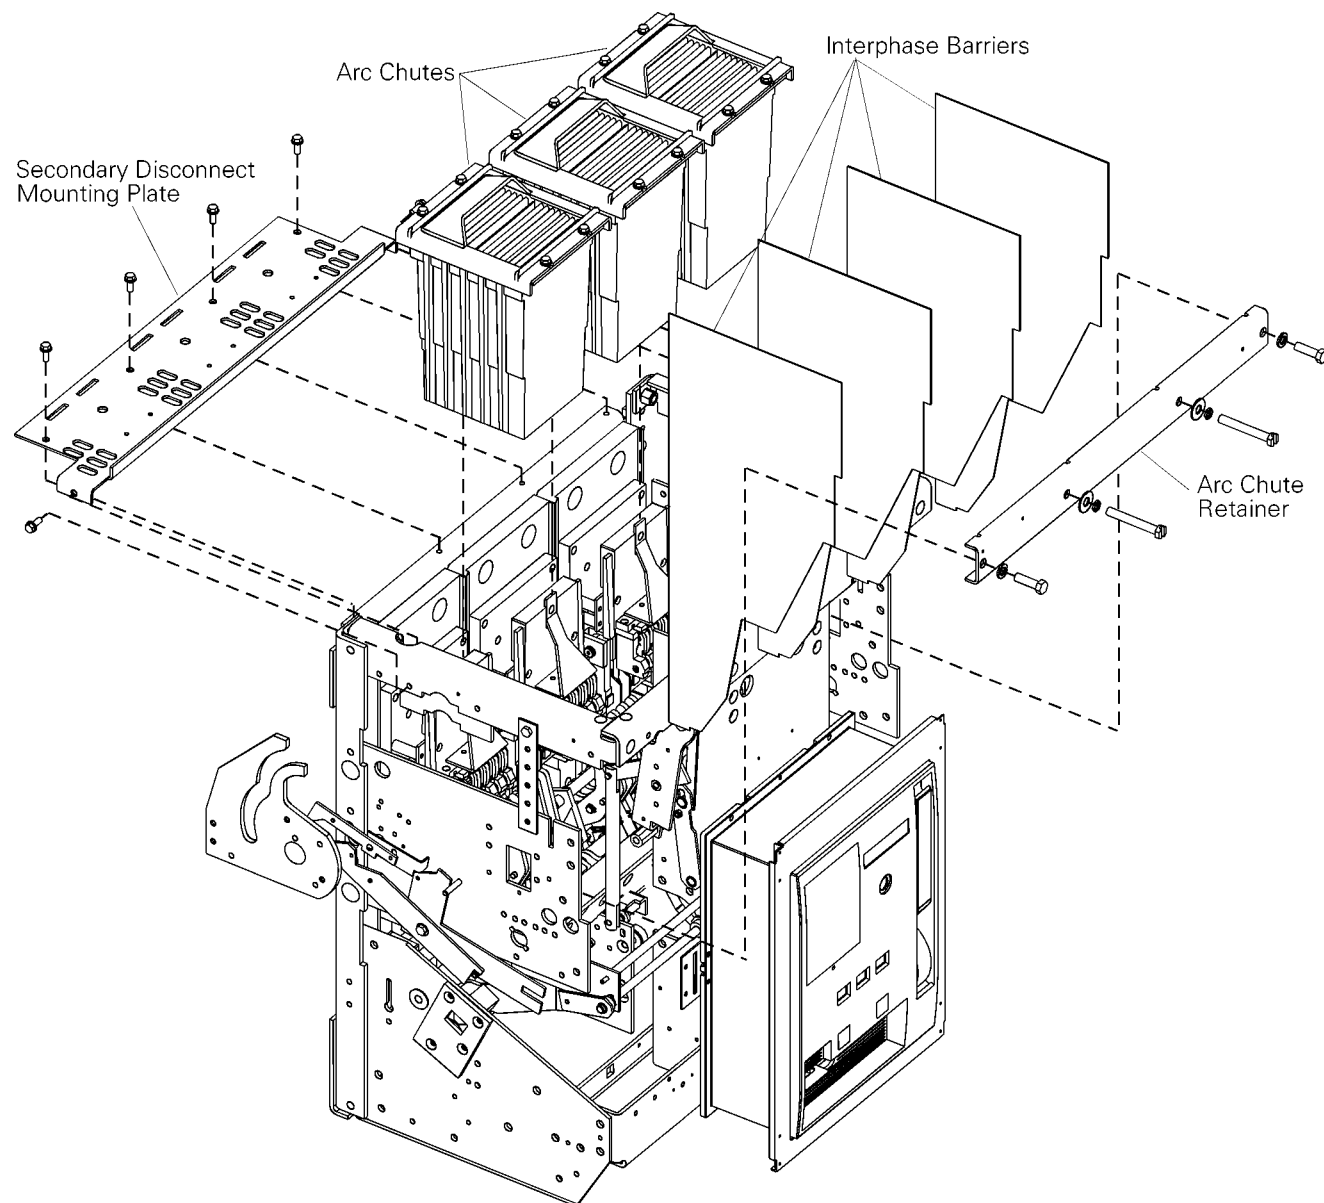

Figure 5-4. Removal of the interphase barriers, arc chutes, and secondary disconnect mounting plate.
3. Remove the six screws securing the secondary disconnect mounting plate to the back frame, then remove the mounting plate, as illustrated in Figure 5-4.
4. Remove the four screws securing the arc chute retainer bar and remove the bar, as illustrated in Figure 5-4. Lift out the four interphase barriers, then lift out the three arc chutes.
15. Replace the four arc chute interphase barriers into their slots, as illustrated in Figure 5-4.
16. Slide the arc chutes into place, with the slots over the movable contact arms. Replace the arc chute retainer bar and secure it with four screws and washers, as illustrated in Figure 5-4.
17. Attach the secondary disconnect mounting plate to the breaker with its six screws, as illustrated in Figure 5-4.
2. Remove the four screws securing the arc chute retainer bar and remove the bar, as illustrated in Figure 5-4.